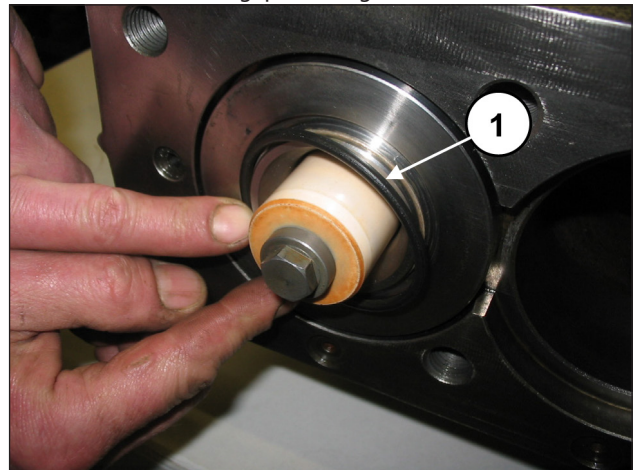

Fig. 161
Install the front O-ring in the liner (pos. ①, Fig. 161) and the recirculation hole O-ring (pos. ①, Fig. 162).